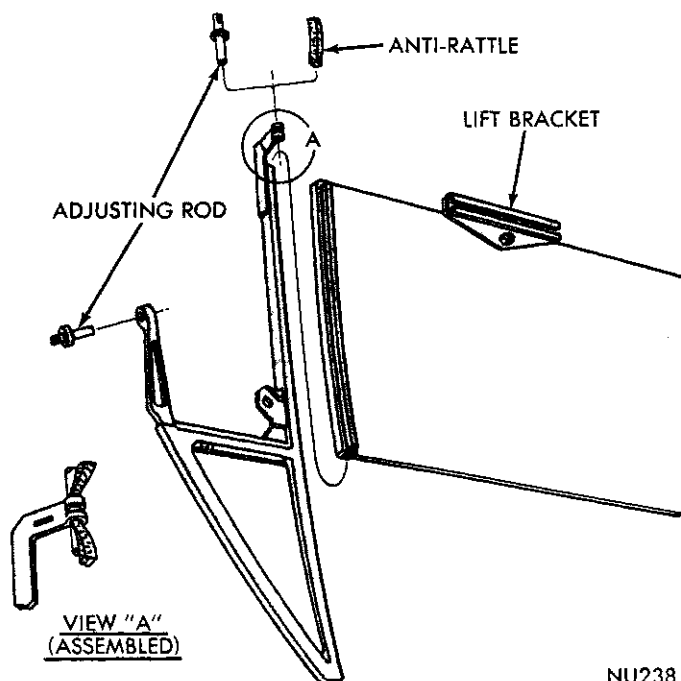
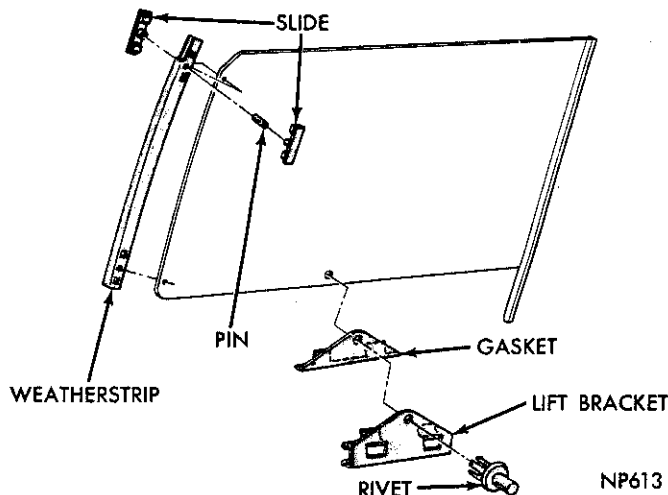
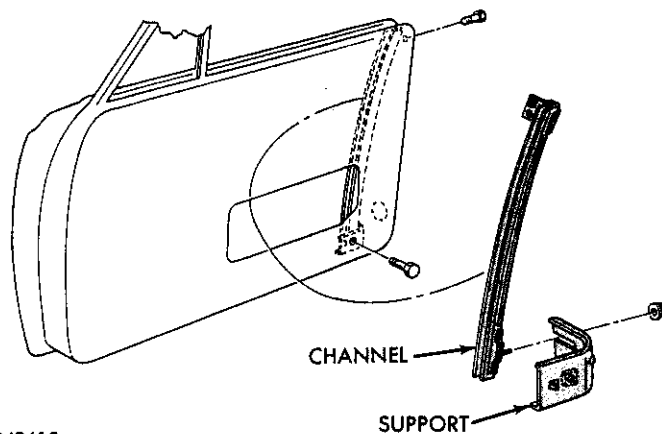

Fig. 29—Vent Wing and Door Glass—Hardtop
Fig. 30—Door Glass Assembly
Fig. 31—Rear Channel Assembly—Hardtop
- (5) Remove vent wing to hinge fence screw and washer.
- (6) Raise vent wing and door glass, tilt toward lock face of door and disengage regulator arm from glass lift bracket and remove from door.
- (7) Invert vent wing and door glass assembly and remove adjusting stud, rod and retainer from vent wing (Fig. 29).
- (8) Slide door glass out of vent wing channel.
(9) Remove slide, weatherstrip, pin and lift bracket assembly from door glass (Fig. 30).
(1) Position door glass and rear frame in up-right position and install lift bracket and slide assemblies (Fig. 30).
(2) Invert vent wing and install door glass in inverted position.
(3) Install adjusting stud, rod and retainer in vent wing and lubricate sliding surfaces of door glass lift bracket (Fig. 29).
(4) Insert lowest point on division bar through upper lock face corner, twist to insert between panels and slide forward.
(5) Tilt lock face side of assembly upward so vent wing hinge adjusting stud will enter hole in inner reinforcement and rear edge of glass fits squarely in rear channel run (Fig. 31) and install nut and washer.
(6) Insert adjusting rod in hole of bracket and install nut and washer.
The rear run channel is attached to the door inside panel face with screw and washer assemblies (Fig. 31). In and Out adjustment of the channel is made to align the door glass in the channel.